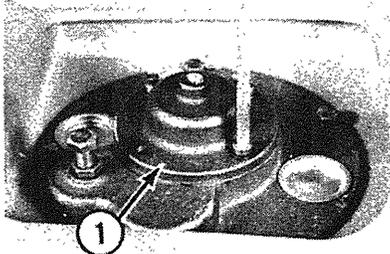

Fig. 3-2
- A. Remove four screws and lockwashers. Remove bearing retainer (1, Fig. 3-2).